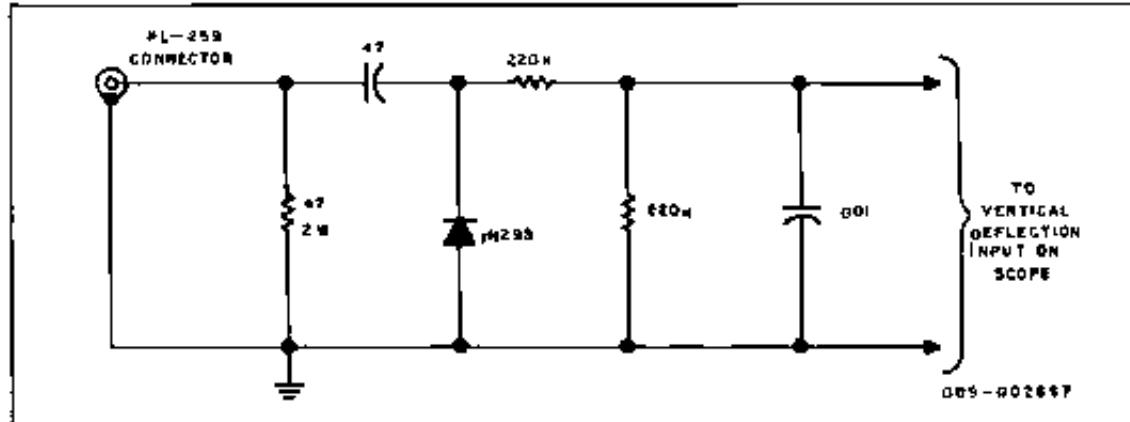

Figure 12 Diode Detector
- Connect the diode detector unit to the RECEIVER outlet to provide a termination for the transverter mixer output. See figure 12.